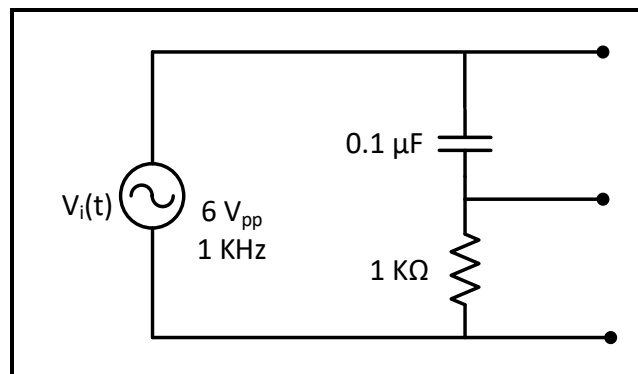

Figure 7.14
2. Connect the circuit of Figure 7.14, set V_{in} to sinusoidal voltage at $6 V_{PP}$, $f = 1 \text{ kHz}$.